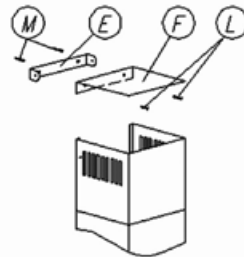

Fig. 6
9. Drill holes at this height, and fix the wall holder of the upper chimney cover (E) to the wall plugs (M) using screws (L). If necessary, use the upper cover (F), Fig. 6.